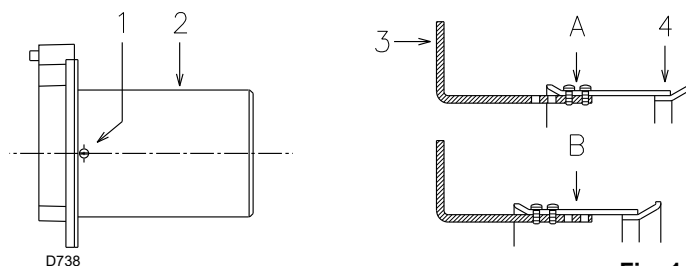

Fig. 14
- unscrew the screws 1)(Fig. 14) and disassemble the blast tube 2);
- move the fixing of the rod 3)(Fig. 14) from position A to position B, thereby causing the shutter 4) to retract;
- now refit the blast tube 2)(Fig. 14) and the screws 1).